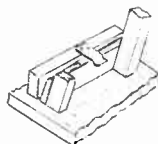

Fig. 3—Details of the metal catch
Open out the table, and tighten up the rivets and screws, as may be necessary to permit it to stand quite firm and level, but do not overdo this, or the folding may involve some strain, not good for the table. A metal catch is advisable, to keep the table, when opened out, in position. A simple affair this, shown in detail sketch Fig. 3. It is a short piece of springy steel or
The back (A) is detailed in Fig. 3. This is of $\frac{1}{2}$ in. wood. When the side pieces (D) are fitted in the slots, the top